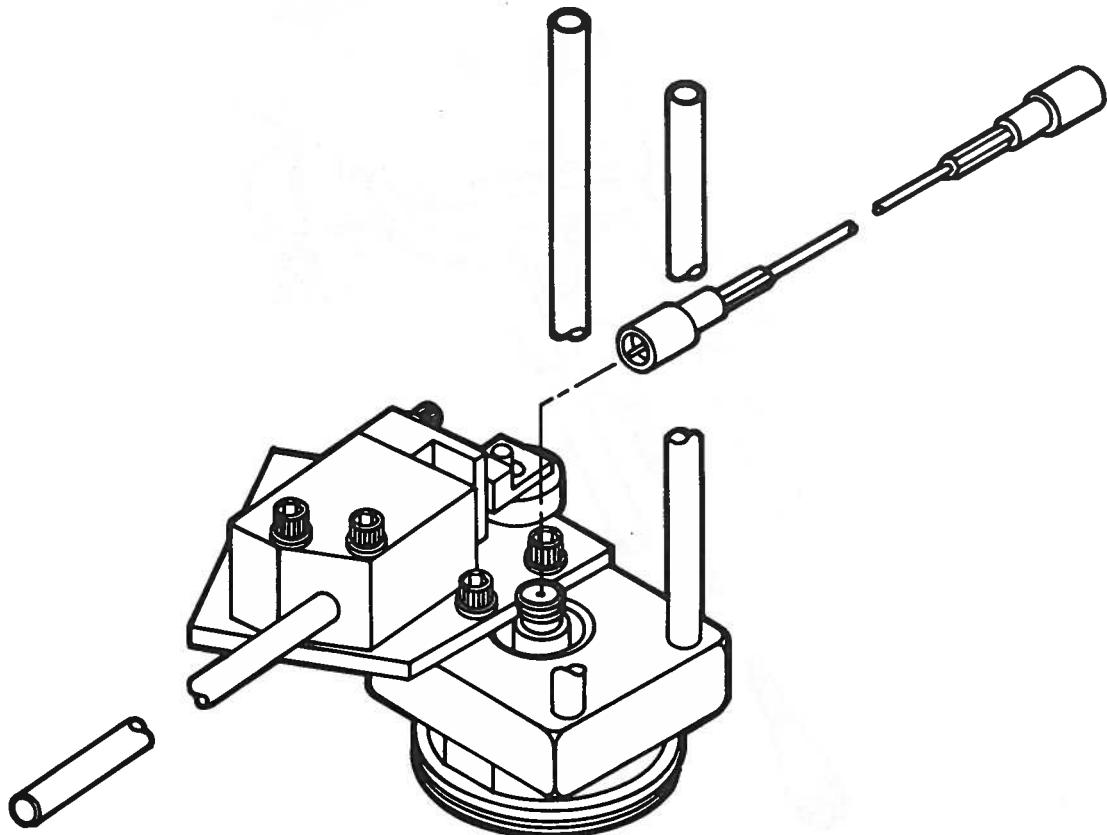

Figure 3.8 Compact Crystal Sensor with Shutter Assembly
1. Position the Compact Crystal Sensor Assembly as shown in Figure 3.8.
2. Place the assembled Shutter Module Assembly on the back side of the sensor, and install the screws as noted in Figure 3.8. Tighten the screws.